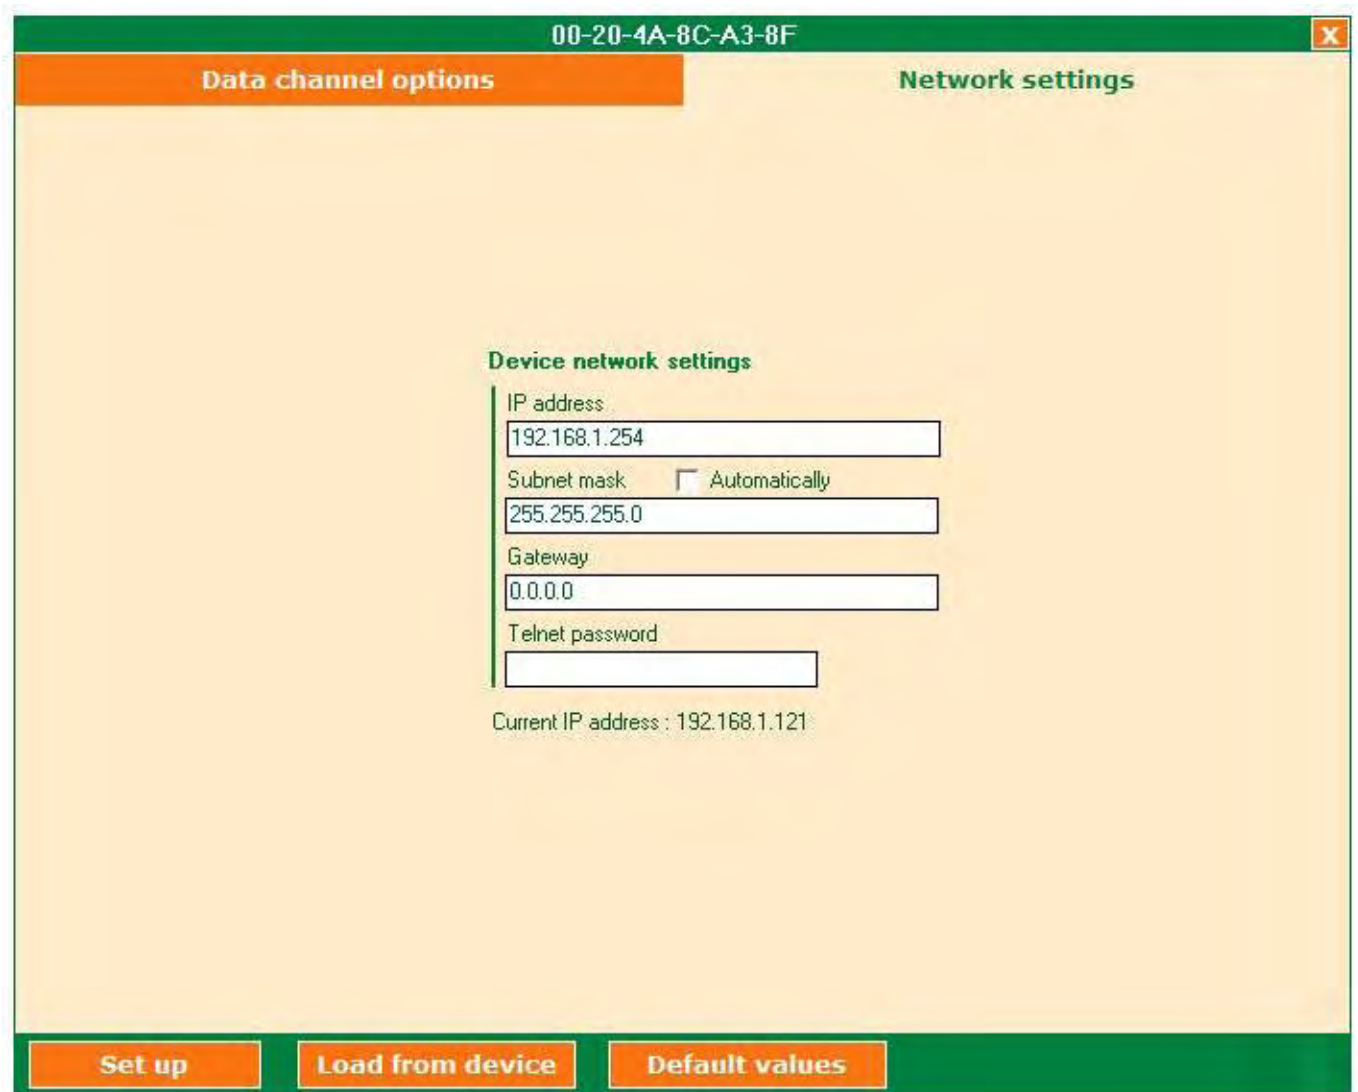

Fig. 9 – Network settings
When you click on the "Network settings" after connecting the converter, the setting window (Fig. 9) is displayed.
Recommended references: Fig. 9
*Recommended references: Fig. 9*